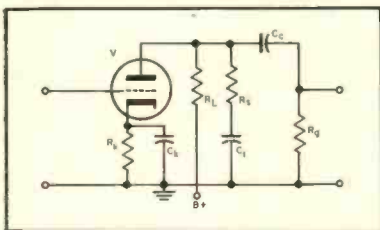

Fig. 4. Basic variable-load-impedance bass-boost amplifier circuit. Triode shown for simplicity.
A simple, commonly-used type of bass boost circuit is shown in Fig. 4.  $R_k$ ,  $R_L$ , and  $R_\theta$  may be selected from resistance-coupled amplifier data to provide the maximum gain desired at the lowest frequency of interest. The requirements on  $C_e$  and  $C_k$  are the same as discussed for the basic amplifier in the degenerative-bass-boost circuit. The high-frequency gain is given by the product of the mutual conductance of the tube and a resistance equal to the parallel combination of the plate resistance of the tube,  $R_L$ ,  $R_s$ , and  $R_\theta$ . The required value for  $C_t$  may be computed from Eq. (6) by substituting  $R_s$  for  $R_t + R_s$ . The maximum gain should be at least 6 db above, or two times greater than, that required for the greatest bass boost desired, if a 6 db per octave slope is to be followed to the lowest frequency of interest. A 6SJ7 operated to obtain a maximum gain of 200—46 db—will provide for a high-frequency gain of about three and